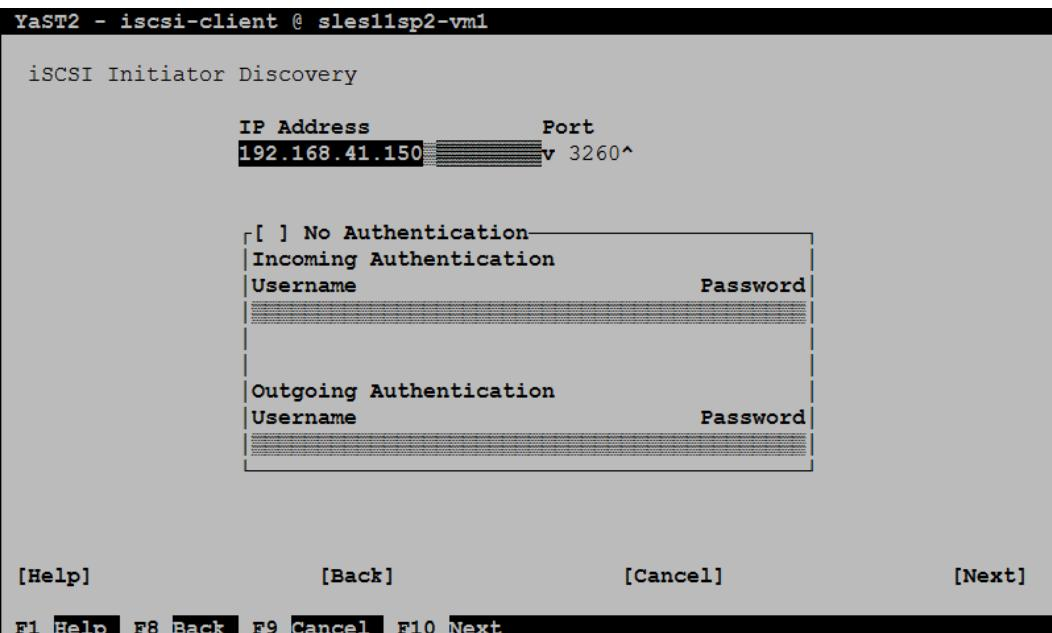

Figure 7-14 Target Information
3. Select Discovery and the next panel opens, as shown in Figure 7-14. In this case, the IP addresses for the IBM Storwize V7000 canisters are 192.168.41.150 and 192.168.41.151. If CHAP is configured (it is not configured in this example), the data is specified in this menu.